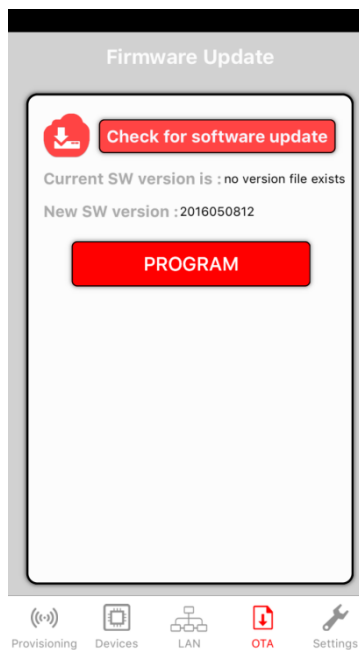

Figure 25. Mobile App Check for Software Update Completed
2. In Figure 25, clicking the Check for software update button triggers a new software version download from a data store server as indicated by New software version.